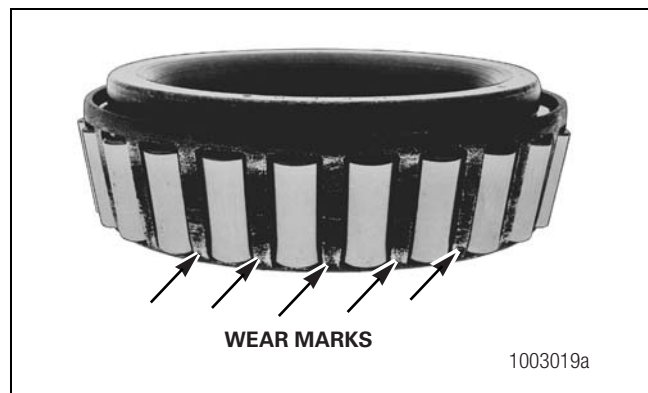

Figure 10.3
- There are bright wear marks on the outer surface of the roller cage. Figure 10.3.